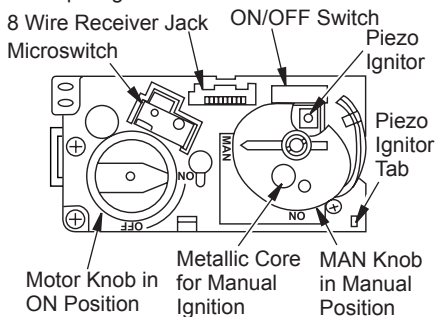

Figure 14 - Control Valve
4. Wait (5) minutes to clear any gas and then smell for gas around heater and near floor. If you smell gas, STOP! follow "B" on page 10. If you do not smell gas, go to next step.
5. Make sure ON/OFF switch is in "-" (ON) position.
6. With MAN knob on valve in MAN position, a metallic core is visible. (see Figure 14, page 12).
5. Wait (5) minutes to clear any gas and then smell for gas around heater and near floor. If you smell gas, STOP! follow "B" on page 10.
7. MAN-knob on valve is in MAN position (see Figure 14). When in MAN position you can see a metallic core.
1. Disconnect ignitor cable from receiver and connect to Piezo Ignitor Tab (see Figure 14 and Wiring Diagram on page 18).